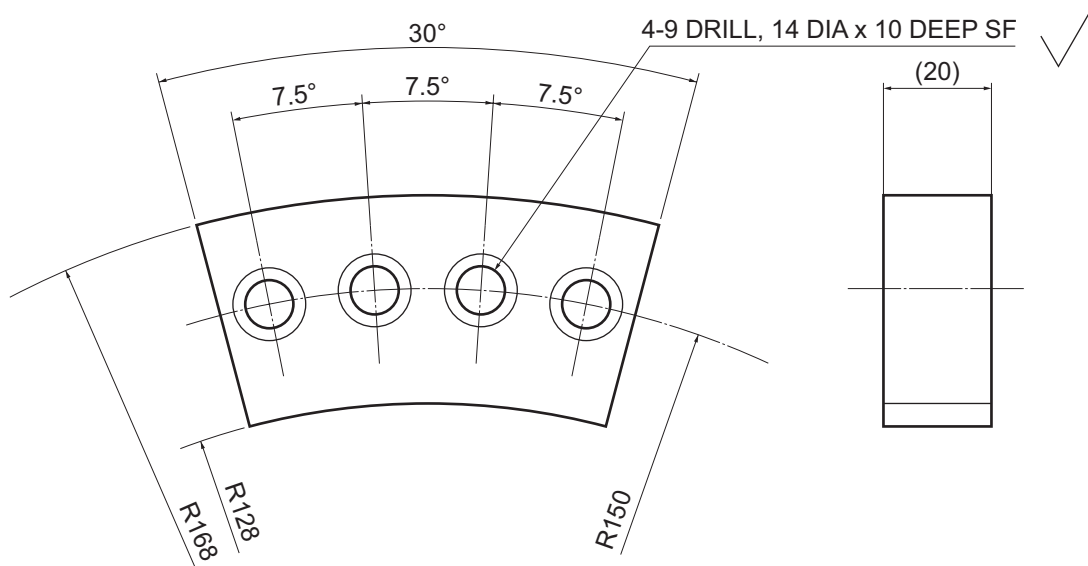

Figure 1-4. Fixture Block B
- Fixture block B, quantity 1 (see **Figure 1-4**)